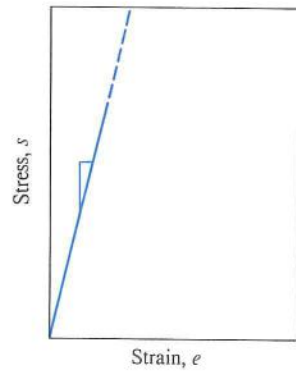

FIG. 8-1.2
When only elastic deformation exists, the strain is proportional to the applied stress (Fig. 8-1.2). The ratio of stress to strain is the *modulus of elasticity* (Young's modulus), and is a property of the material (Eq. 1-2.3). The greater the forces of attraction between atoms in a material, the higher the modulus of elasticity (Fig. 2-6.1).
Figure 8-1.2 shows only elastic strain. This situation is typical of brittle (nonductile) materials such as cast iron, glass, and phenol-formaldehyde polymers. *Ductile* materials undergo some *plastic* (permanent) strain before fracture. For example, if a steel beam is loaded, it will first deflect elastically. The deflection disappears when the load is removed. An overload will permanently bend the beam in the locations where the stresses exceed the yield strength of the steel. In this case, the bent beam has failed, but it has not fractured. In contrast, on a production line, the yield strength of a sheet of steel may be intentionally exceeded to bend the sheet into the shape of a car fender. At this stage, the metal has yielded, but it has not failed because production requires considerable plastic strain. It is necessary in both production and service to know (1) the critical stress requirements to initiate permanent deformation, and (2) the amount of plastic strain available before eventual fracture of a ductile material.